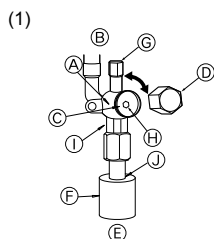

Fig. 4-6
(1) Liquid side of stop valve (Fig. 4-6)